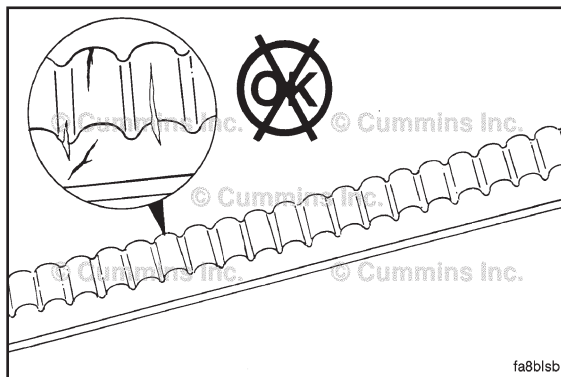

Fig. 124
- Check the condition of the V-belt (Fig. 124). Small cracks in transverse direction are permitted. Cracks in longitudinal direction are not permitted. Replace the V-belt in case of broken out material, intersecting cracks in longitudinal and transverse direction or fraying.